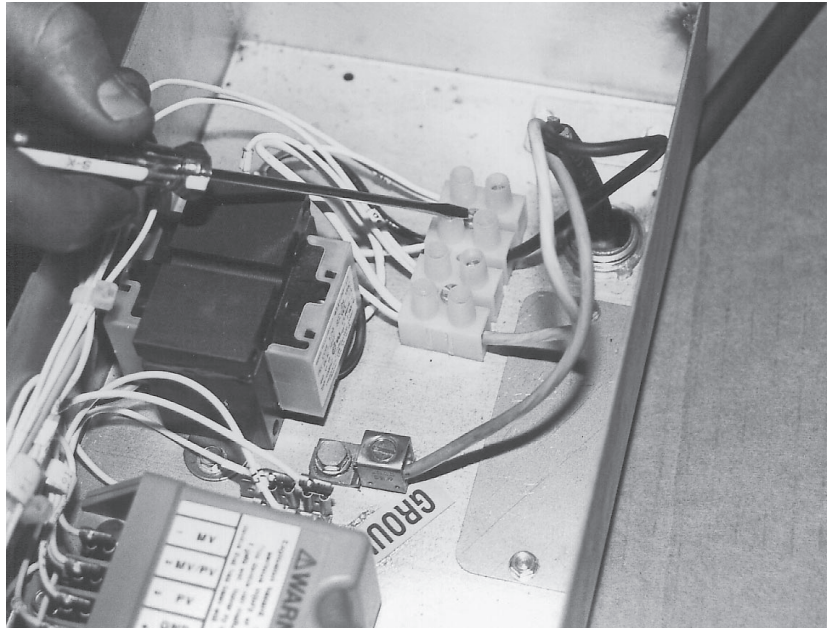

Fig. 87
4. With small flat blade screwdriver, remove all wiring with in the box that attaches the supply cord to the terminal block and the ground lug. (Fig. 87)